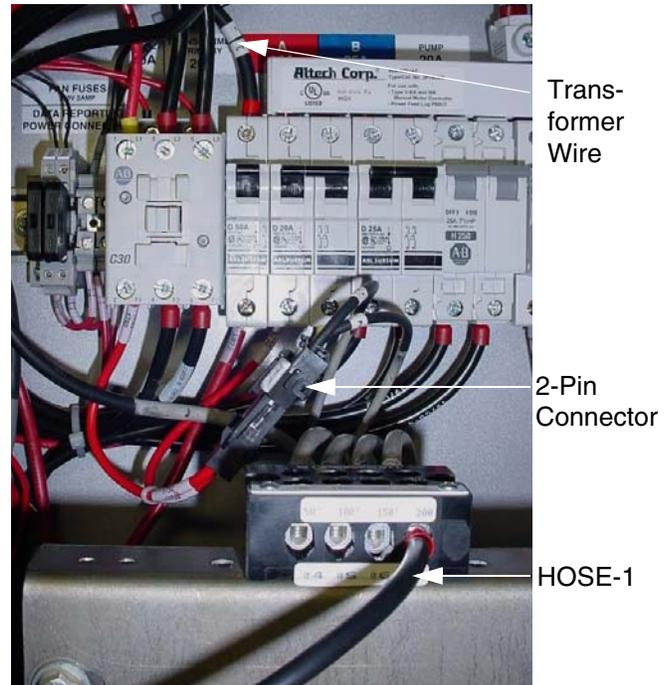

FIG. 25
14. Connect wire HOSE-1 to transformer using highest tap setting. Depending on transformer unit, wire will be in either #7 or #9 connection. Tighten wire. See FIG. 25.